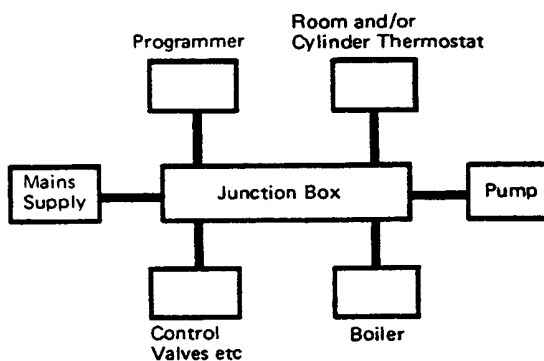

FIG. 4 PRINCIPLE OF WIRING
5. WIRING — See Figs. 4 to 10
The boiler terminal strip is not designed to accept wiring from all the on-site system controls and therefore, the installer will need to incorporate a suitable junction box. The principle of wiring up the boiler and its controls is shown in Fig. 4. However, the layout of a particular system